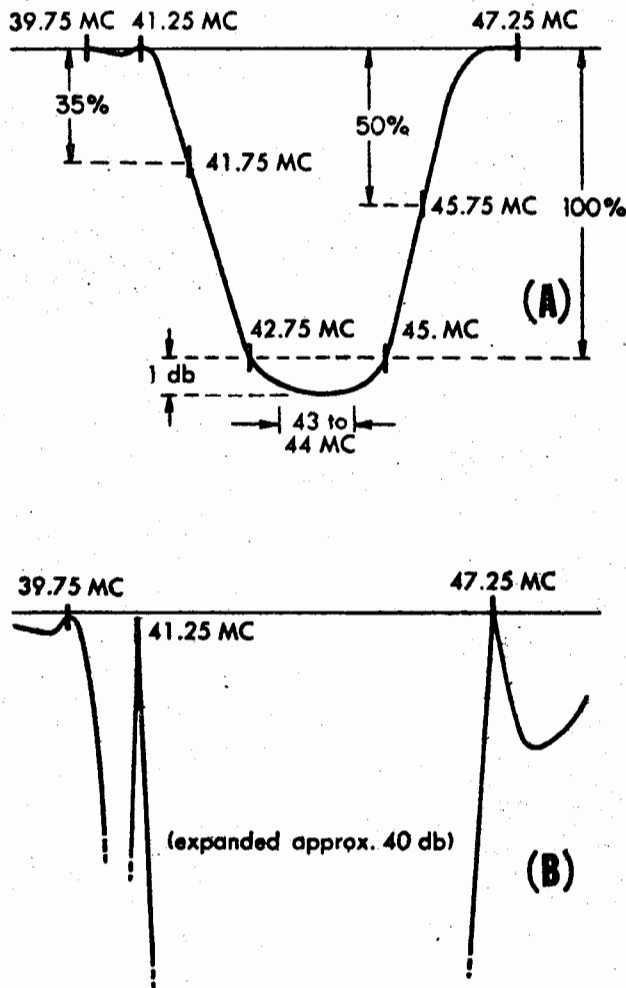

Figure 8 - Overall Response Curve, Taken at Test Point C1.
(a) Adjust Converter plate coil (on tuner) to approach response shown in Figure 8.
- (b) Tune 1st IF coil (T1) for response shown in Figure 8.
- (c) Adjust 2nd IF coil (T2) for maximum response at approximately 45 mc. This adjustment will "rock" the center of the response. Adjust to approximate response shown in Figure 8.
- (d) Adjust 3rd IF coil (T3) for maximum response at approximately 43 mc. This adjustment will affect the lower frequency side of the response. Adjust to approximate response shown in Figure 8.